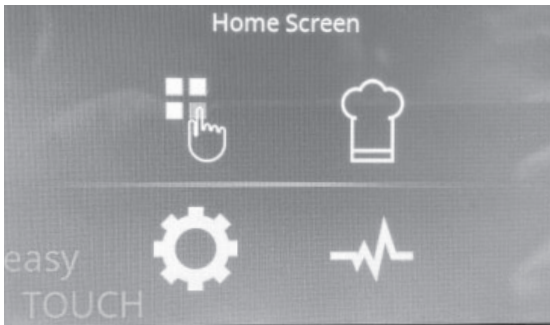
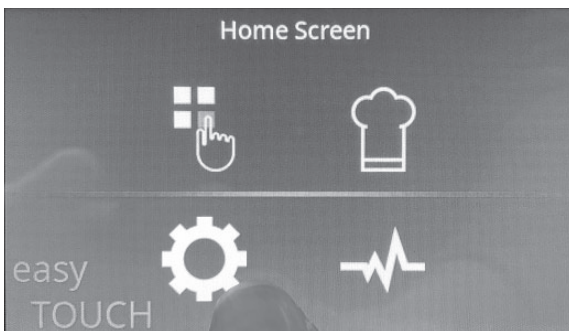

Figure 20
Figure 21
1. Press the Cog or Settings mode button on the Home screen. (Figure 20 and Figure 21)